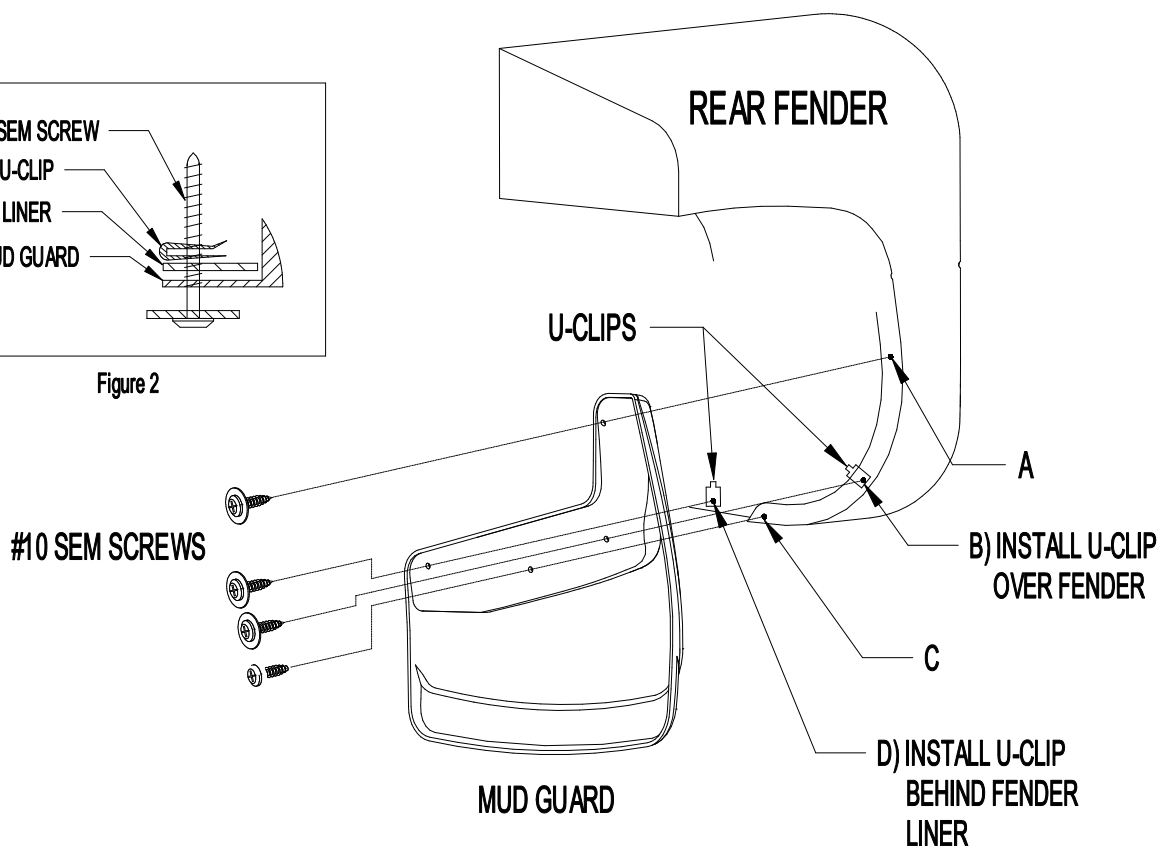

Figure 1
2. Remove existing fasteners from location A and C (Figure 1).
3. Install mud guard to rear fender with #10 SEM screws at locations A and C (Figure 1). Check fit and parallel and adjust accordingly before tightening.